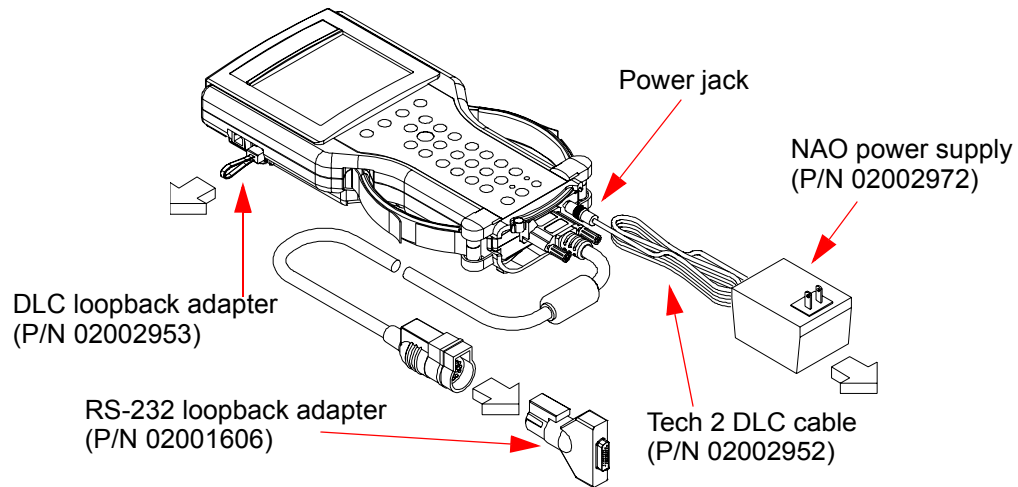

FIGURE 3-7. Disconnection of RS-232 Loopback Adapter, DLC Loopback Adapter, and Power Supply
7. Disconnect the RS-232 loopback adapter, the power supply, and the DLC loopback adapter and return to the Tech 2 storage case (Figure 3-7).